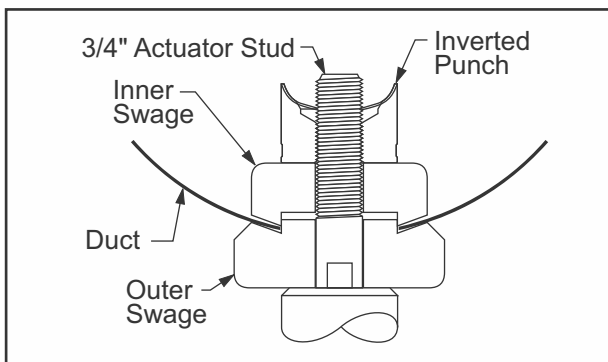

Fig. 33: 60mm Swage Configuration
2. 1-5/16" Punch: From the Hydraulic punch kit thread the 3/8" stud into end of 3/4" draw stud of the Greenlee hydraulic actuator. Slide the three spacers onto the 3/4" actuator draw stud. Slide the 1-5/16" die onto the 3/8" stud with the open end of the die facing away from the actuator. Insert the 3/8" stud through the pilot hole in the duct. From inside the duct thread the matching 1-5/16" punch onto the 3/8" stud with the cutting surfaces of the punch toward the duct. Continue threading the punch by hand until the die, duct and punch are snug. Operate the hydraulic actuator to draw the punch through the duct material. Remove the punch, die and 3/8" stud. (Fig. 33)